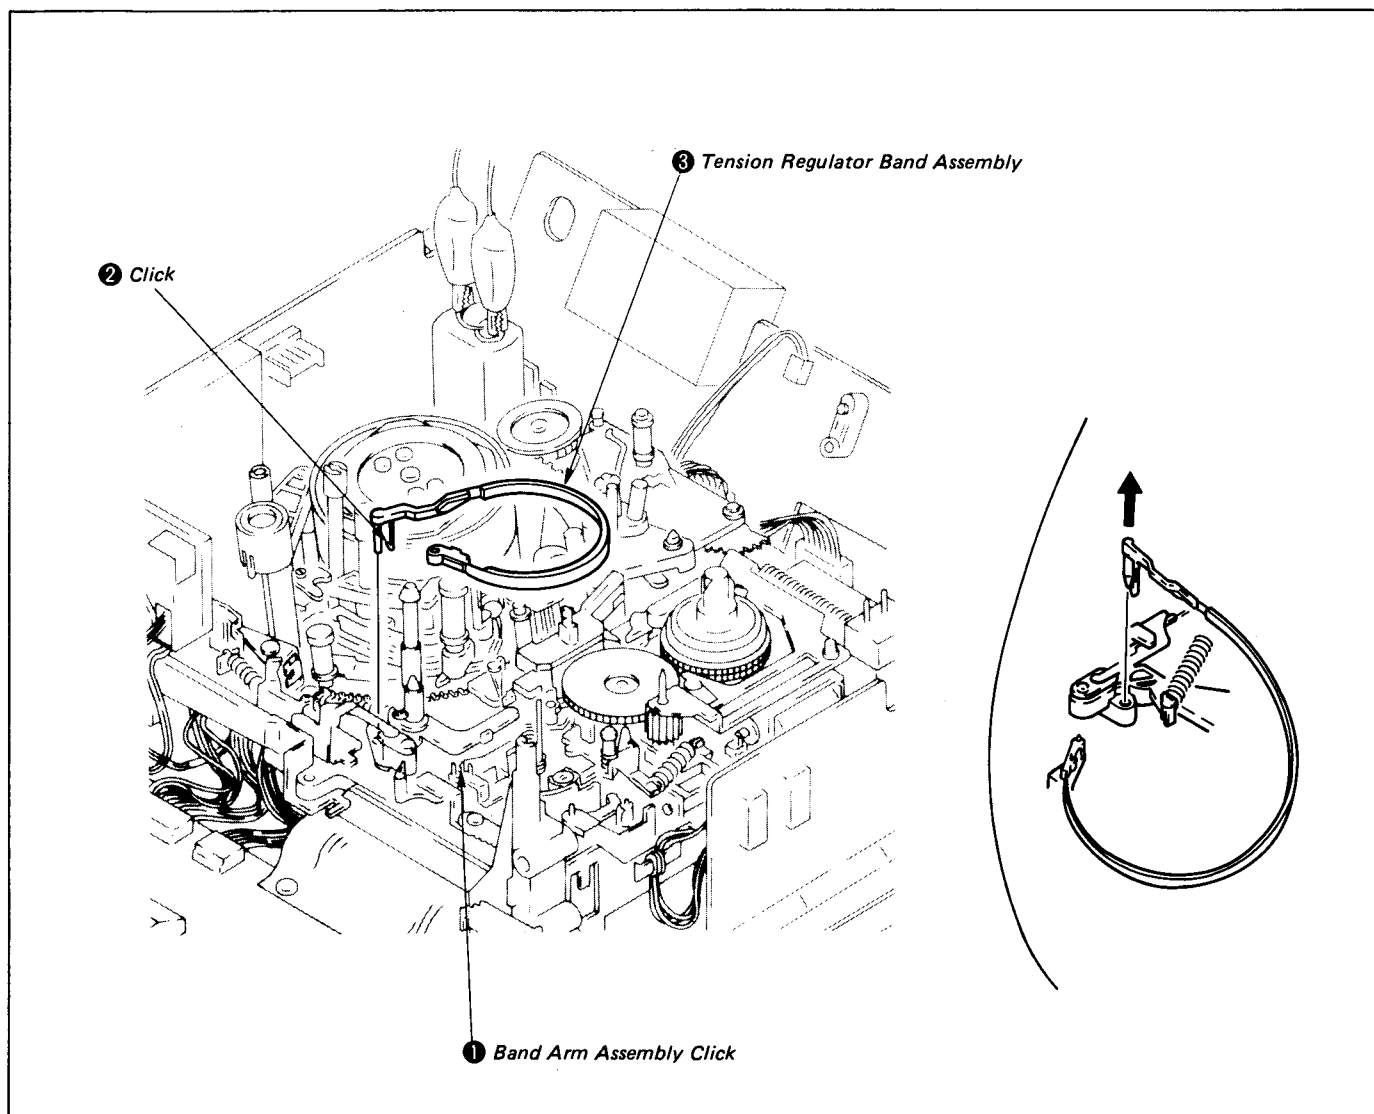

Fig. 1-12
- 2) Disengage the band arm assembly click ❶.
- 3) Disengage the click ❷ and remove the tension regulator band assembly ❸. (See Fig. 1-12.)
- 1) Remount the tension regulator band assembly ❸. (Do not touch or deform the band.)
- 2) Reengage the band arm assembly click ❶. (See Fig. 1-12.)